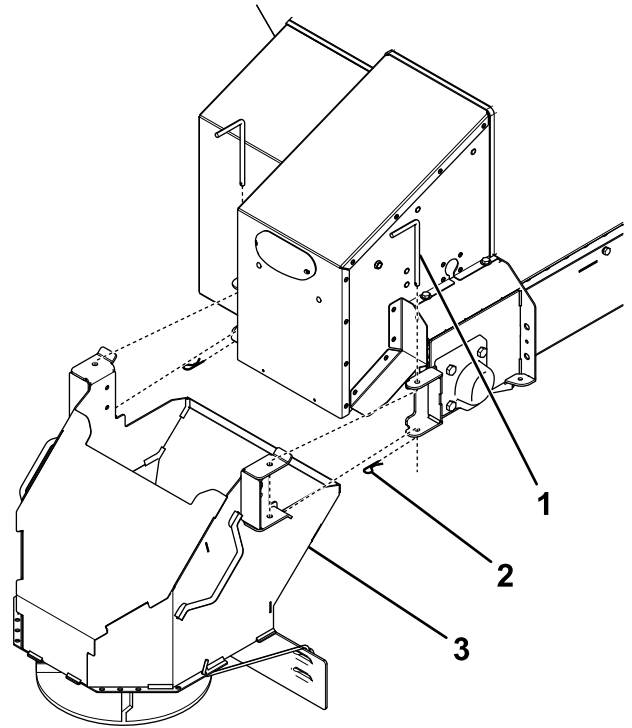

Figure 11
1. Remove and retain the latch and cotter pins from the spinner assembly (Figure 11).
2. Attach the spinner assembly to the spreader and secure it with the previously removed latch and cotter pins (Figure 11).